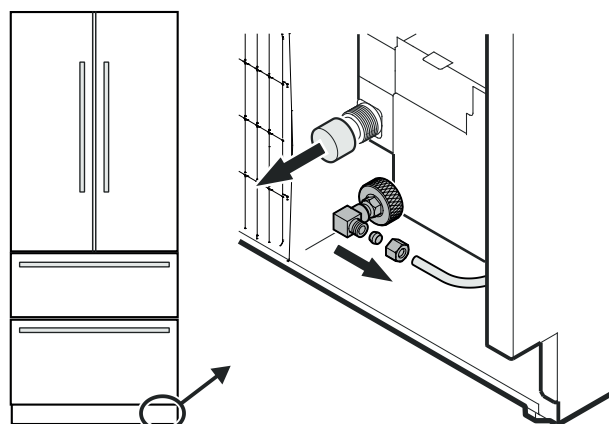

Figure 15
5. Remove the cover from the solenoid valve (Figure 15).